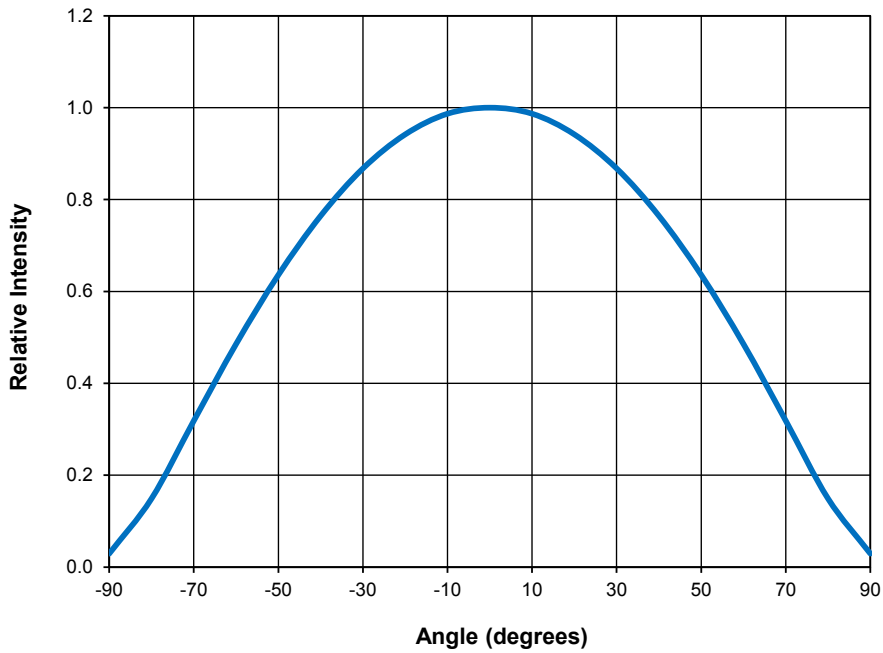

Figure 7.
3. Angle corresponds to the spatial radiation pattern of the emitter (see Figure 7).